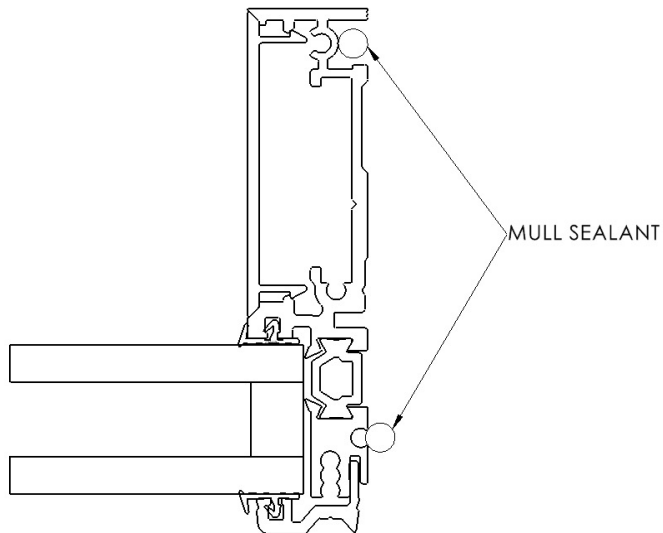

Figure 3
1. Apply a 1/4" diameter bead of Dow 795 sealant or equivalent sealant in the mull clip groove and at the sealant groove. (See Figure 3)